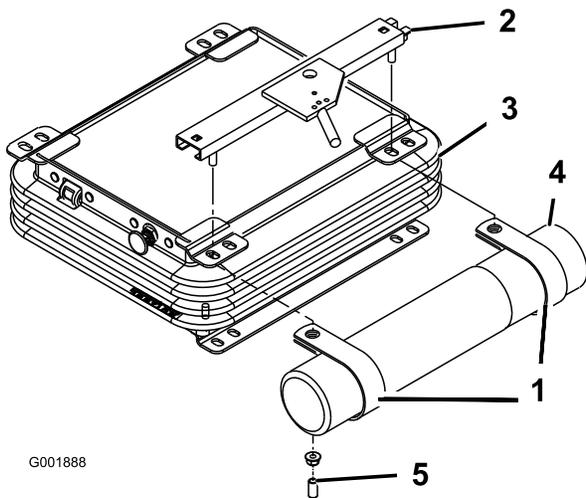

Figure 7
2. Remove the 2 nuts and vinyl caps (if previously installed) securing the upper seat bracket to the left side of the seat suspension (Figure 7).
- Loosely mount the R-clamps to the seat bracket studs with the 2 nuts previously removed. (Figure 7). The R-clamps are to be positioned under the seat suspension tabs.
- Install the manual tube into the R-clamps and tighten the nuts (Figure 7).